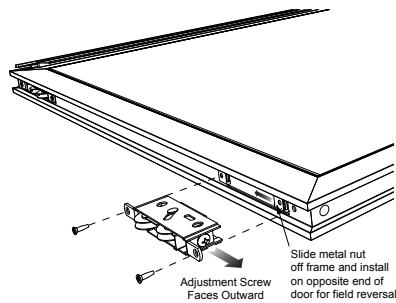

Figure 11 — Roller Removal
- A. Remove the two Phillips head screws attaching each roller to the door panel (**Figure 11**).